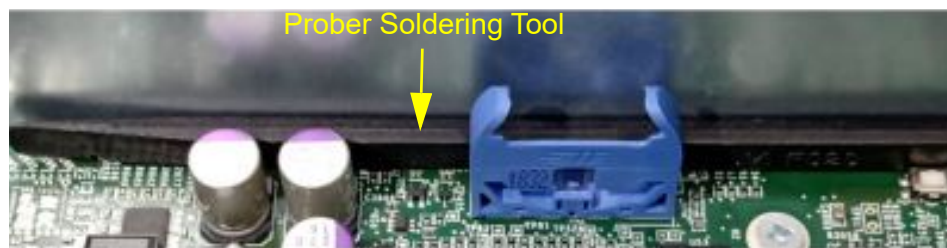

Figure 8.24 Prober soldering tool in place
1. Place the prober soldering tool on the server board between the battery holder and the wall of the canister to provide support for the base of the battery holder, as shown in Figure 8.24.